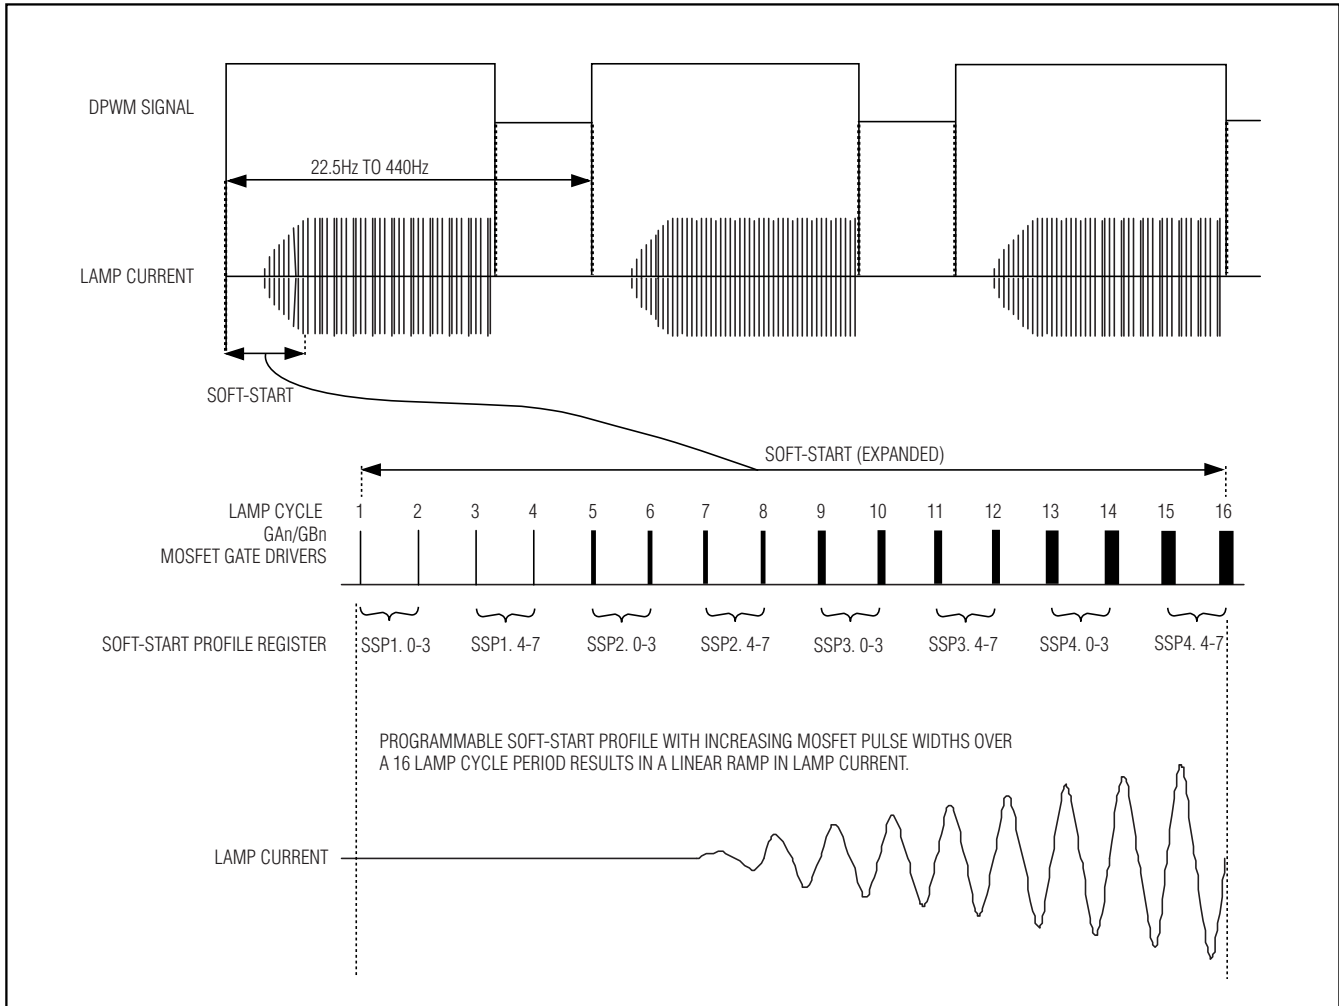

Figure 6. Digital PWM Dimming and Soft-Start
lamp frequency (40kHz to 80kHz) as shown in Figure 6. This part of the cycle is called the “burst” period because of the lamp frequency burst that occurs during this time. During the low period of the DPWM cycle, the controller disables the MOSFET gate drivers so the lamps are not driven. This causes the current to stop flowing in the lamps, but the time is short enough to keep the lamps from de-ionizing. Dimming is increased/ decreased by adjusting (i.e., modulating) the duty cycle of the DPWM signal.
At the beginning of each lamp burst, the DS3988 provides a soft-start that slowly increases the MOSFET gate-driver duty cycle (see Figure 6). This minimizes the possibility of audible transformer noise that could result from current surges in the transformer primary. The soft-start length is fixed at 16 lamp cycles, but the soft-start ramp profile is programmable through the four Soft-Start Profile registers (SSP1/2/3/4) and can be
**Soft-Start Profile (SSPx) Registers**—Each of the four soft-start profile registers (SSP1–4) contains two 4-bit codes that determine the MOSFET's duty cycle (MDC) for two clock cycles each (see Figure 6) at the beginning of each DPWM burst. Table 2 shows the duty cycles that correspond to each code. Selecting the Most Recent Value instructs the DS3988 to use the MOSFET duty cycle that was used for the last lamp cycle of the previous burst.